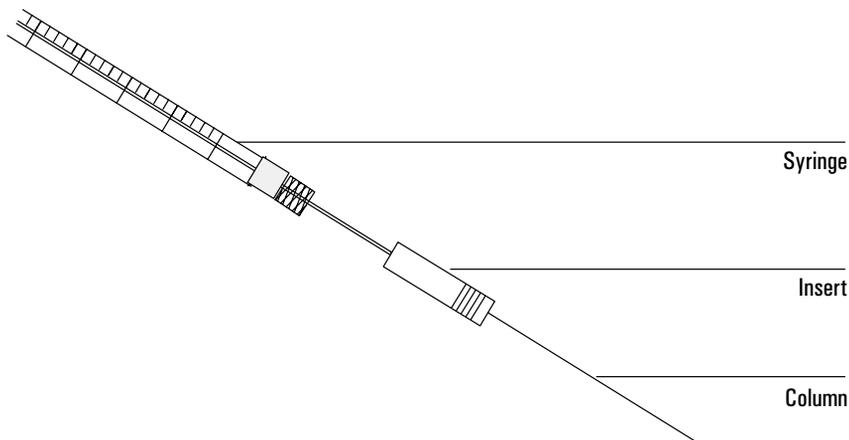

Figure 75. Checking the needle-to-column size
2. Insert the column into one end of the insert as shown in Figure 75.